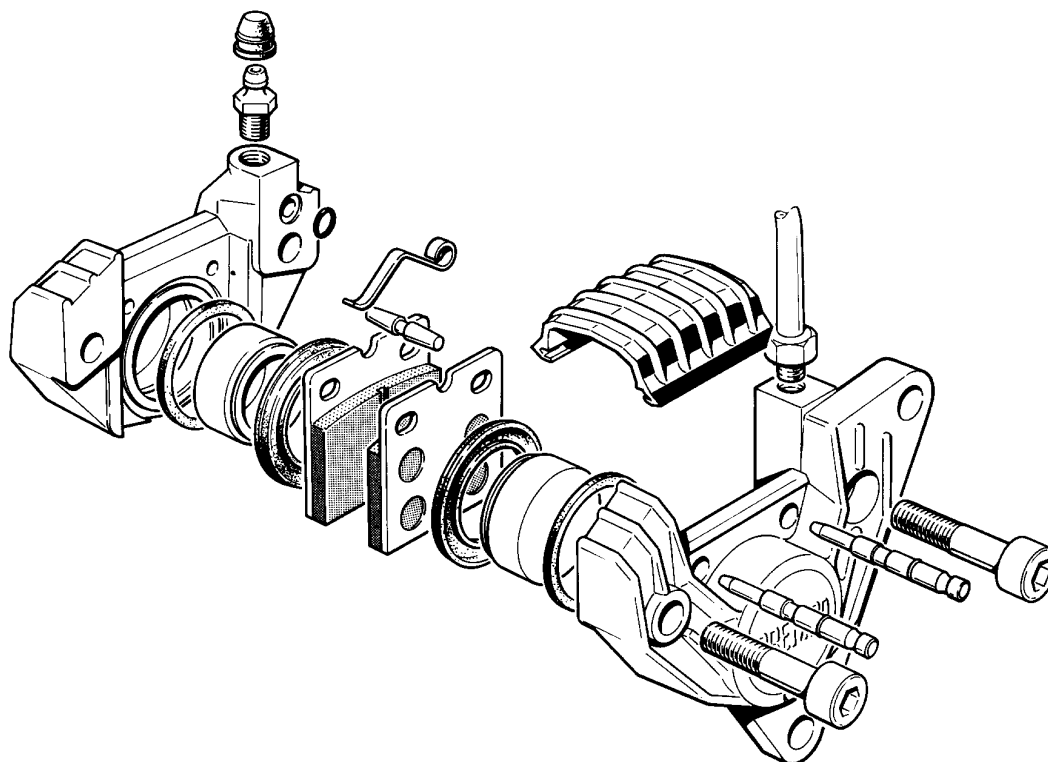

Fig. F9. Exploded View – Brake Caliper Assembly
- f Strip the caliper into two halves (Fig. F9).